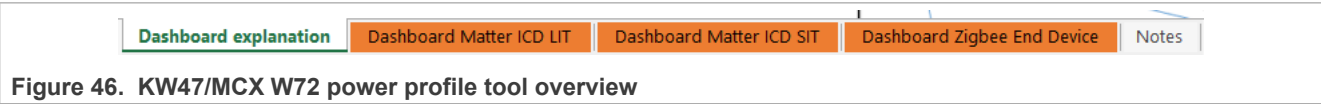

Figure 46. KW47/MCX W72 power profile tool overview
Additional information is available in the other sheets as displayed in Figure 46.
- Dashboard explanation (see Figure 46)